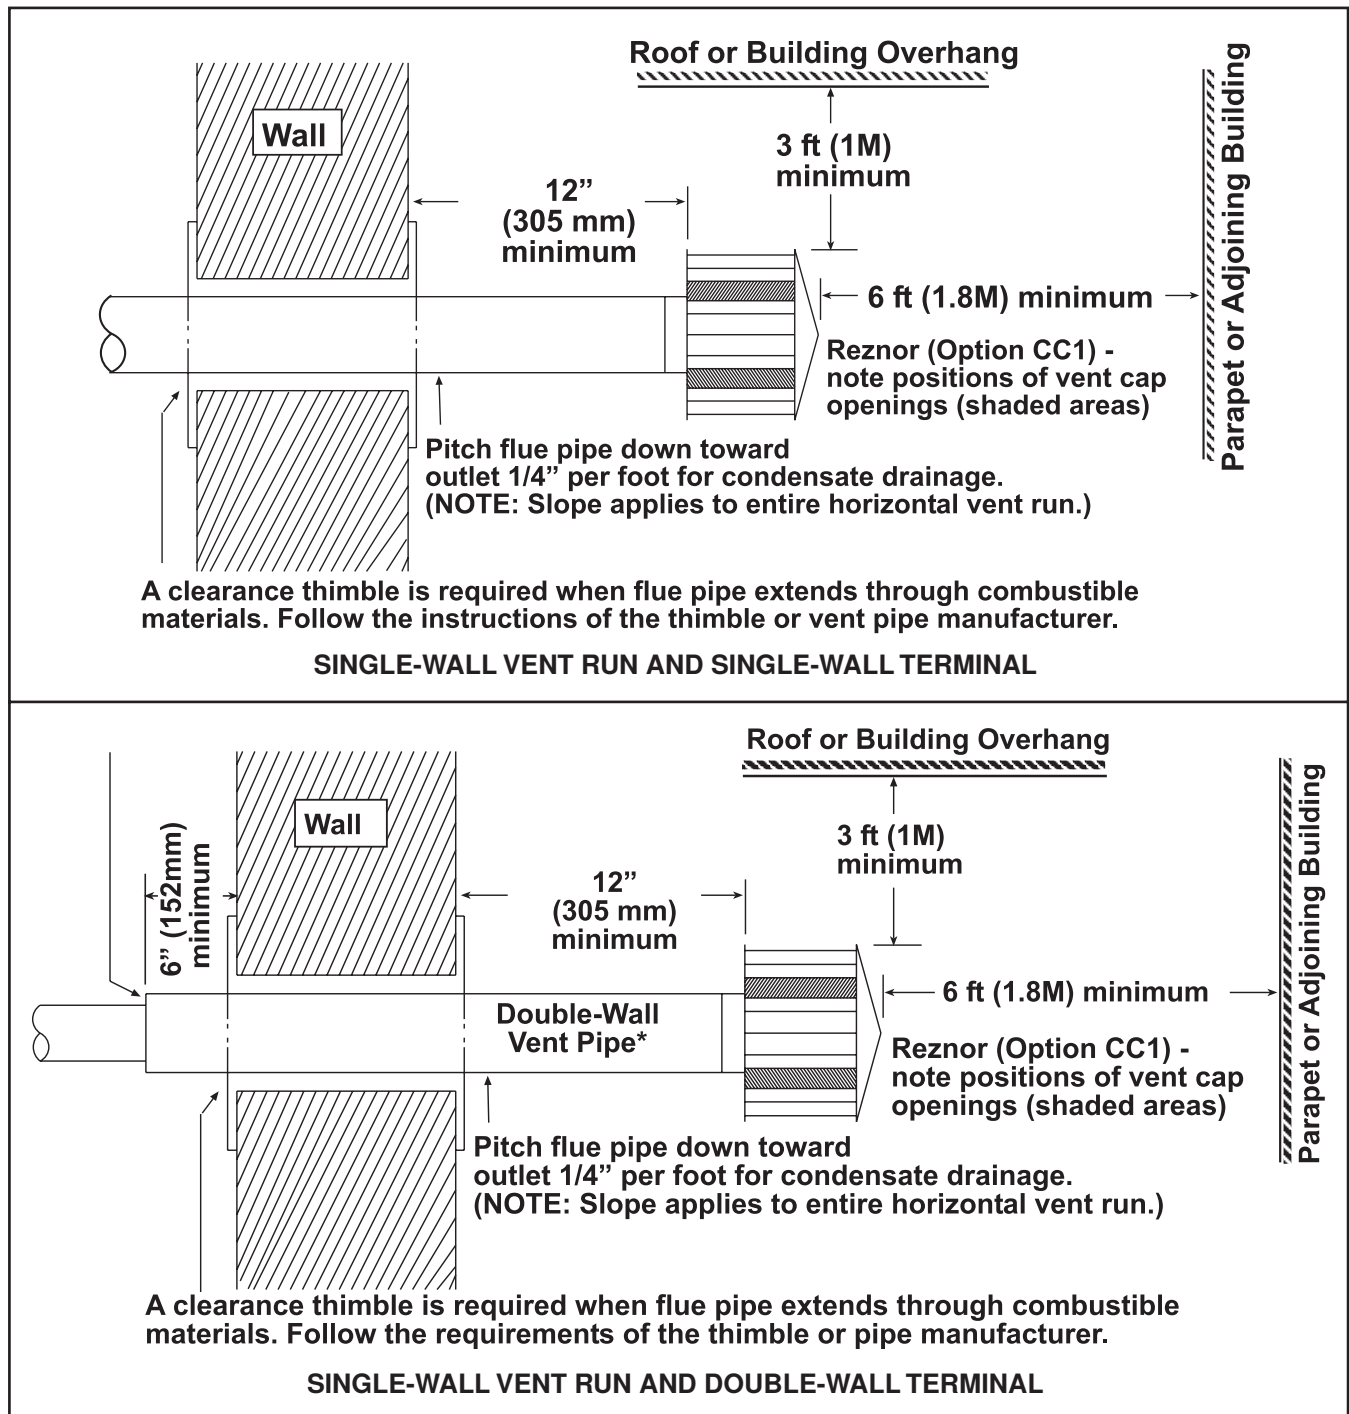

Figure 11. Horizontal Vent Terminal—Power-Vented Installations
- **Vent terminal options:** Vent terminals for power-vented installations using the option CC1 vent cap are shown in Figure 10 (vertical vent configurations) and Figure 11 (horizontal vent configurations).